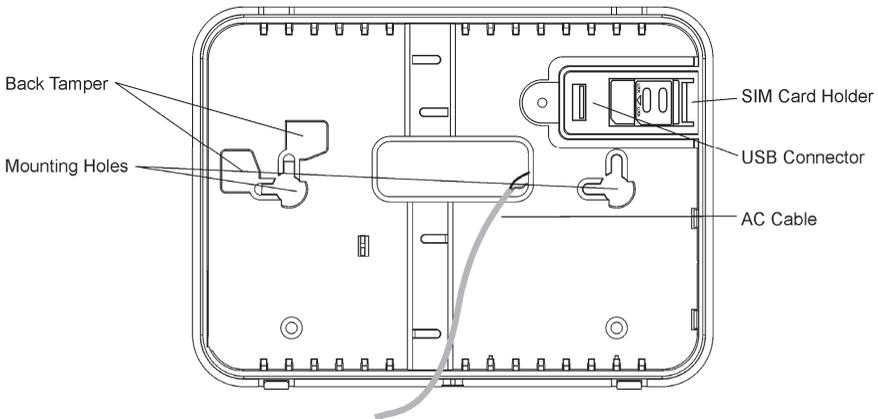

Figure 3-2: Back Cover
- Open the PCB Compartment and make sure a SIM Card with GPRS support is on the PCB – see p. 13 Figure 3-2.
Next diagram shows the Control System's back panel that provides access to the SIM card, the USB Connector and the battery power switch used at first installation – see Figure 3-2 below.